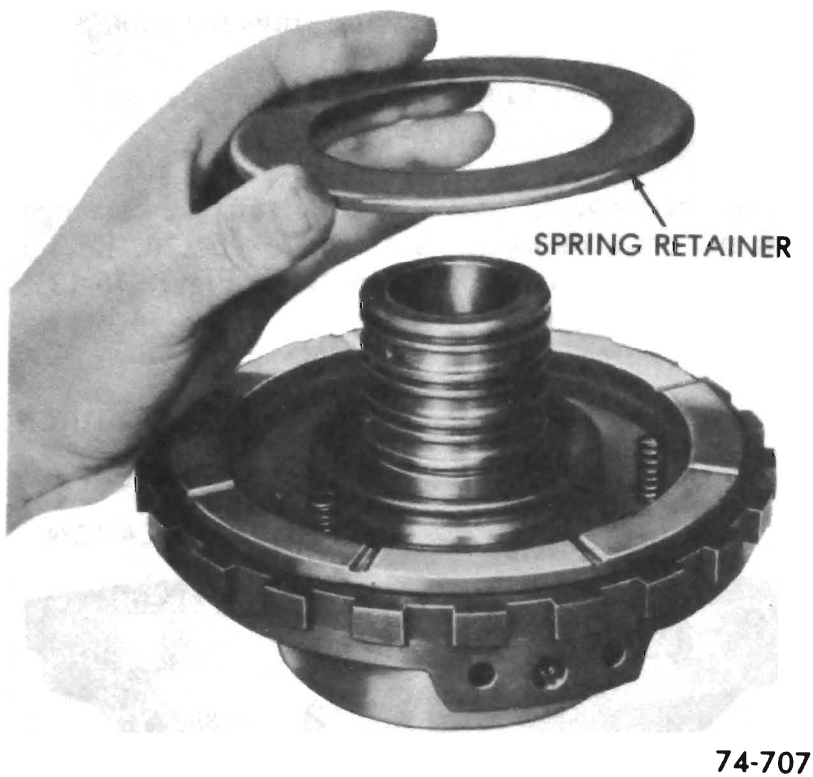

Figure 76-220
3. Remove spring retainer. See Figure 76-220. Remove three (3) clutch release springs. See Figure 76-221.